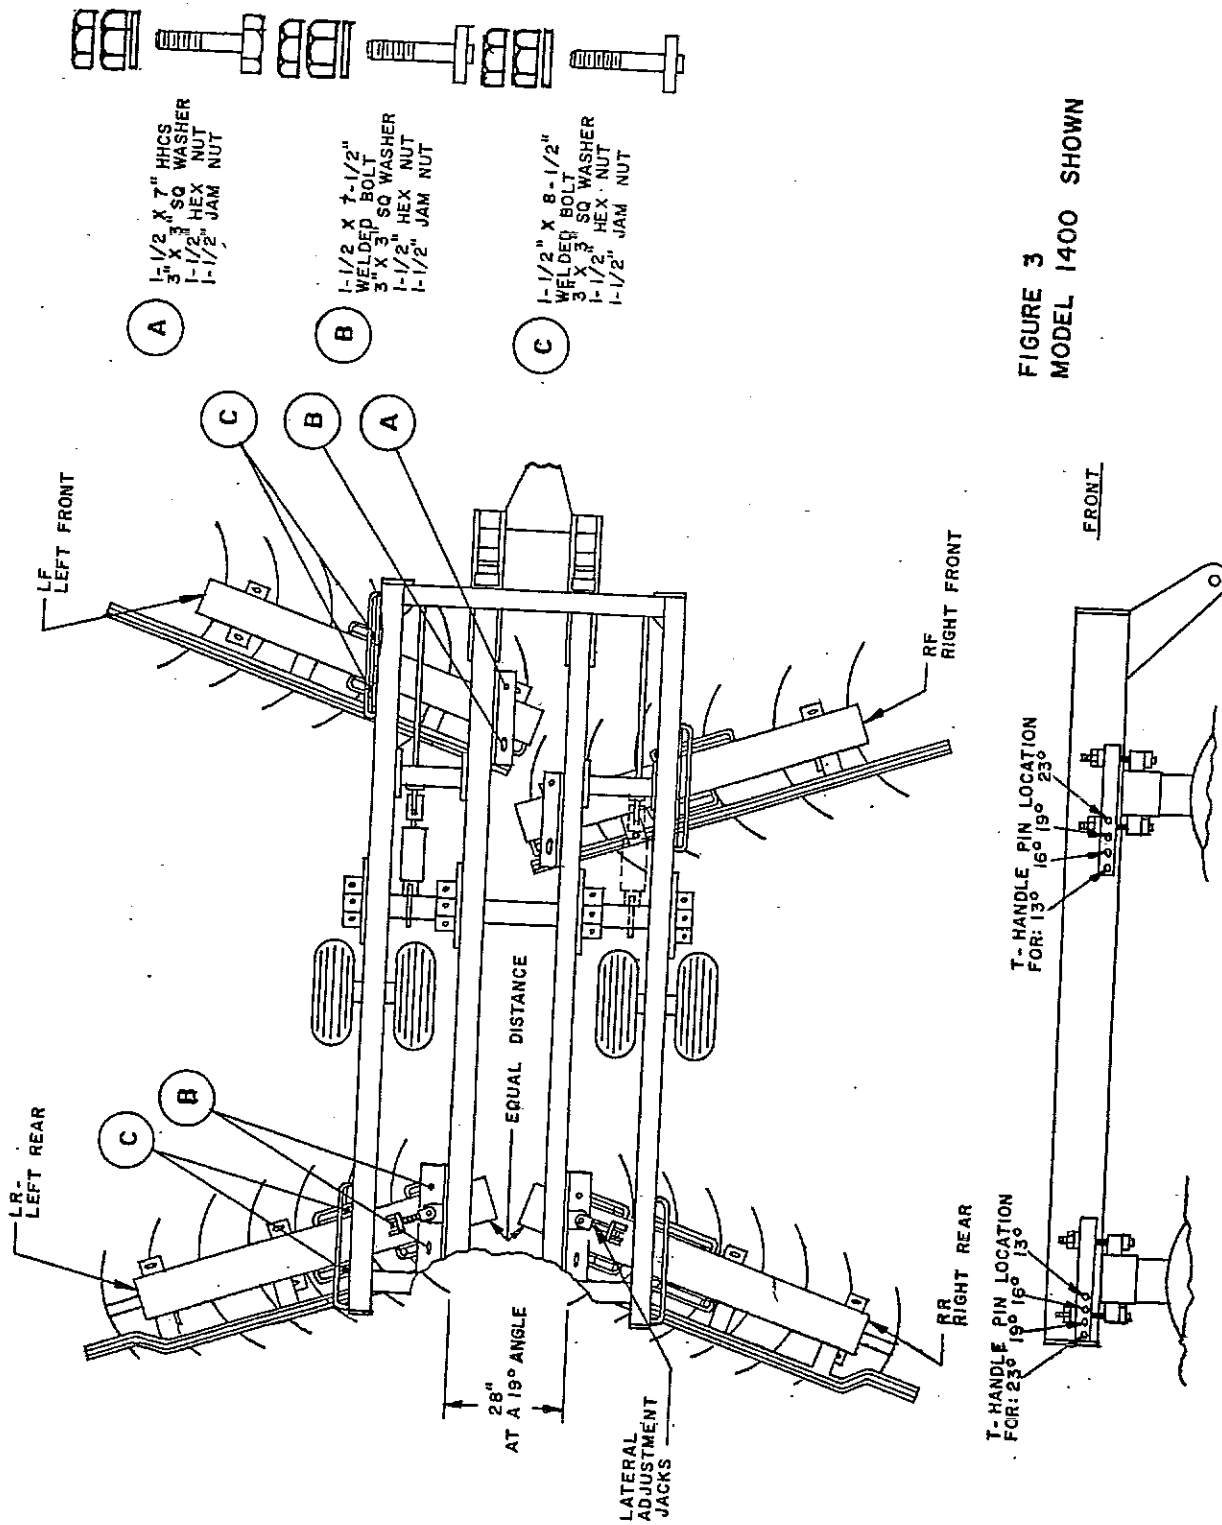

FIGURE 3
4. See figure 3. Note gang identification RF, LF, RR & LR stamped on the end of each gang assembly as shown. Identify gang assemblies and note locations.
5. Install the front gang assemblies with fasteners shown in figure 3. Do not install 1-1/2" jam nut or tighten until the gang angle is properly set. A 19 degree gang angle is suggested for the initial setting. A 1" diameter T-handle pin and hairpin cotter is provided for installation into locating holes of the frame. For the front gang angle of 19 degrees, place the T-handle pin into the third hole from the rear, making sure gang hanger bolt is ahead of this position. Note other angles if desired. Move the gang back so the gang hanger bolt is tight against the T-handle pin. Gangs can be moved by lowering blades to the ground and moving forward or backward as desired. For shop assembly a come-along type winch may be used.
6. Install the rear gang assemblies with fasteners as shown in figure 3. Do not install 1-1/2" jam nuts or tighten until the gang angle and the lateral adjustment are properly set. Install the lateral adjustment jacks, see figures 3 & 4. The 19 degree suggested gang angle for the rear gangs is achieved by placing the T-handle pin in the third hole from the front, making sure the gang hanger bolt is ahead of this position. Note other angles if desired. Move the gang back so gang hanger bolt is tight against the T-handle pin. Rear gangs must also be adjusted laterally (in and out) using the lateral adjustment jacks. Make sure gangs are centered on the frame using the same relative dimension from side to side (See suggested on figure 3). For the 19 degree gang angle the 28" dimension at the closest point of the disk blades is suggested for approximately 5-1/2 MPH travel speed. This adjustment will very likely have to be changed for the specific depth and soil conditions.
4. Observe for ridge or furrow in the center. If adjustment is necessary loosen eight gang hanger bolts and move rear gangs in or out with lateral adjustment jacks. See figures 3 & 4. Moving gangs out eliminates a ridge; moving gangs in eliminates a furrow.